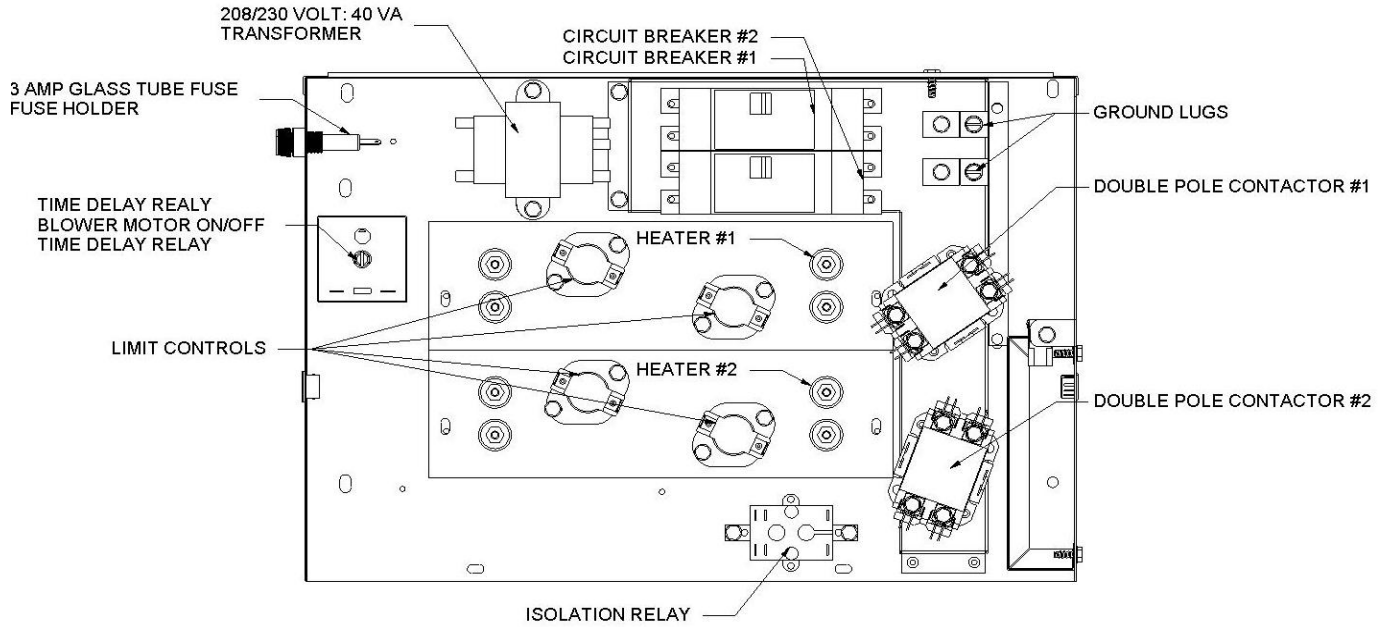

Figure 14: Control Box Component Locations
7. If you are using a single circuit for a 8kW, 10kW, 12kW, 15kW or 20kW model you will need to install a black jumper wire from the L1 terminal on circuit breaker #1 to the L1 terminal on circuit breaker #2 and a white or red jumper wire from the L2 terminal on circuit breaker #1 to the L2 terminal on circuit breaker #2. Refer to Figure 14 for circuit breaker locations.
2. Remove the block off plate shown in Figure 14 and discard. Retain the screws, they will be used to secure the electric heater mount plate.